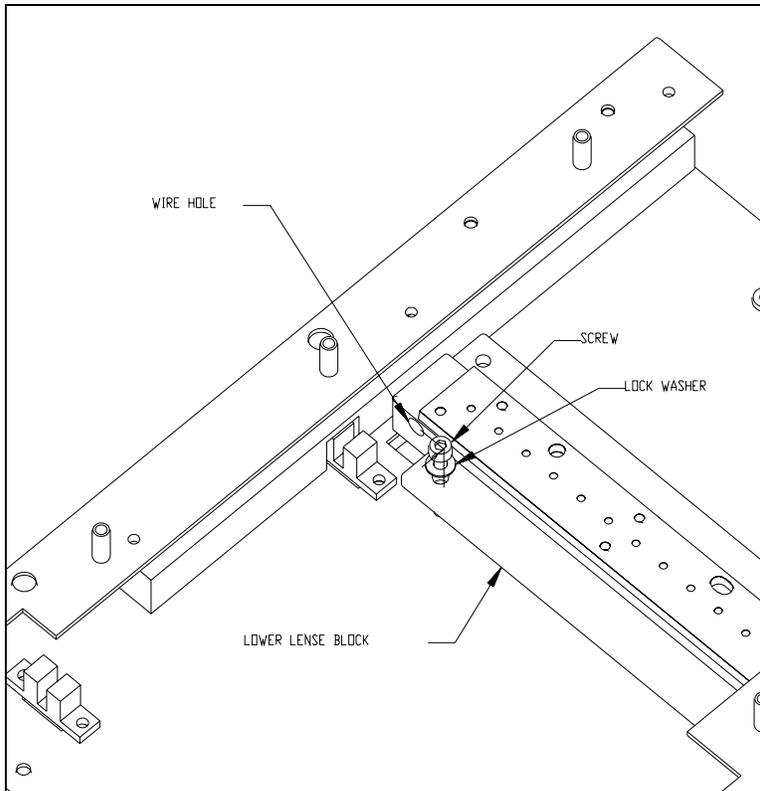

Figure 11-42 Mounting Lower Optics Assembly
- 5 Loosely mount the lower optic block assembly in the chassis using four M3 x 6mm screws and M3 lock Washers (Figure 11-42).